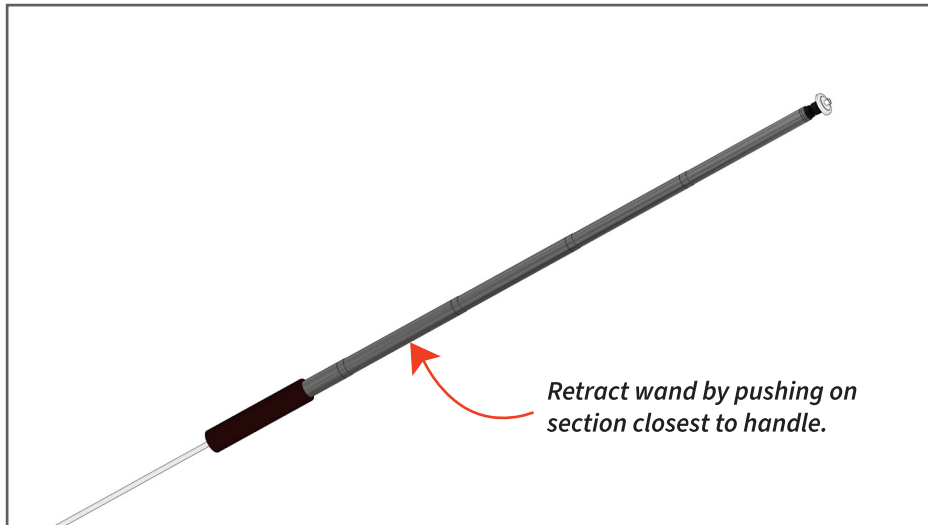

Figure 18: How to retract sampling wand
**\*NOTE:** To prevent the flexible tubing inside the wand from kinking, retract the wand by carefully sliding the metal sections together. Begin by telescoping the sections closest to the handle. (See figure 18)